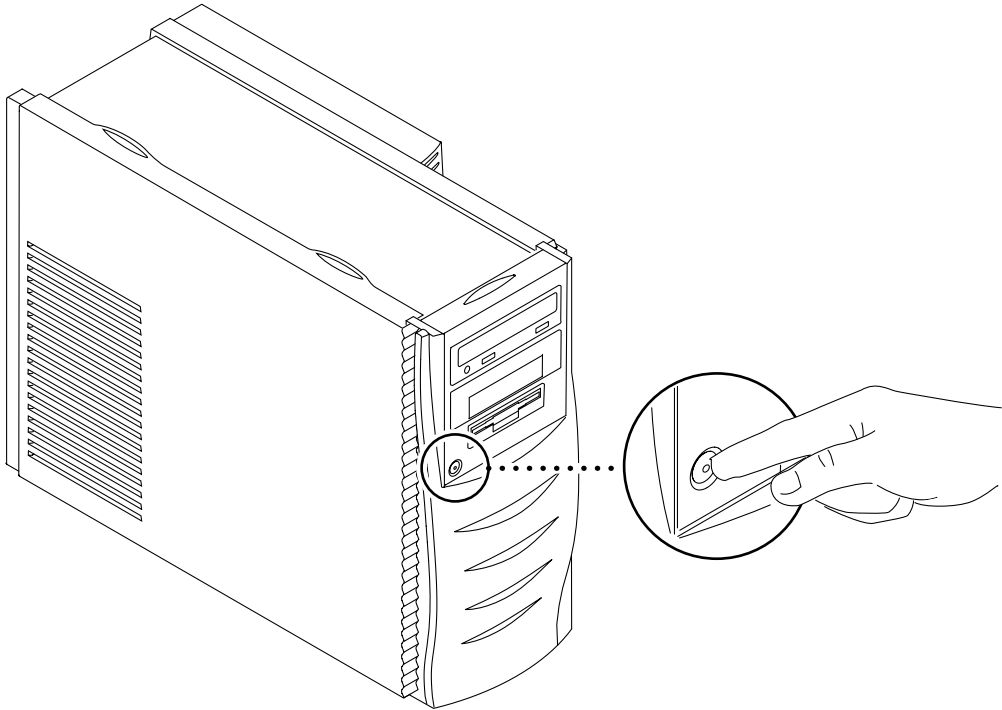

FIGURE 17 Power Switch on an Ultra 80 System
1. Unpack or disconnect your system (FIGURE 17).
c. Press and quickly release the front-panel power switch (FIGURE 17) and follow the instructions on the screen.